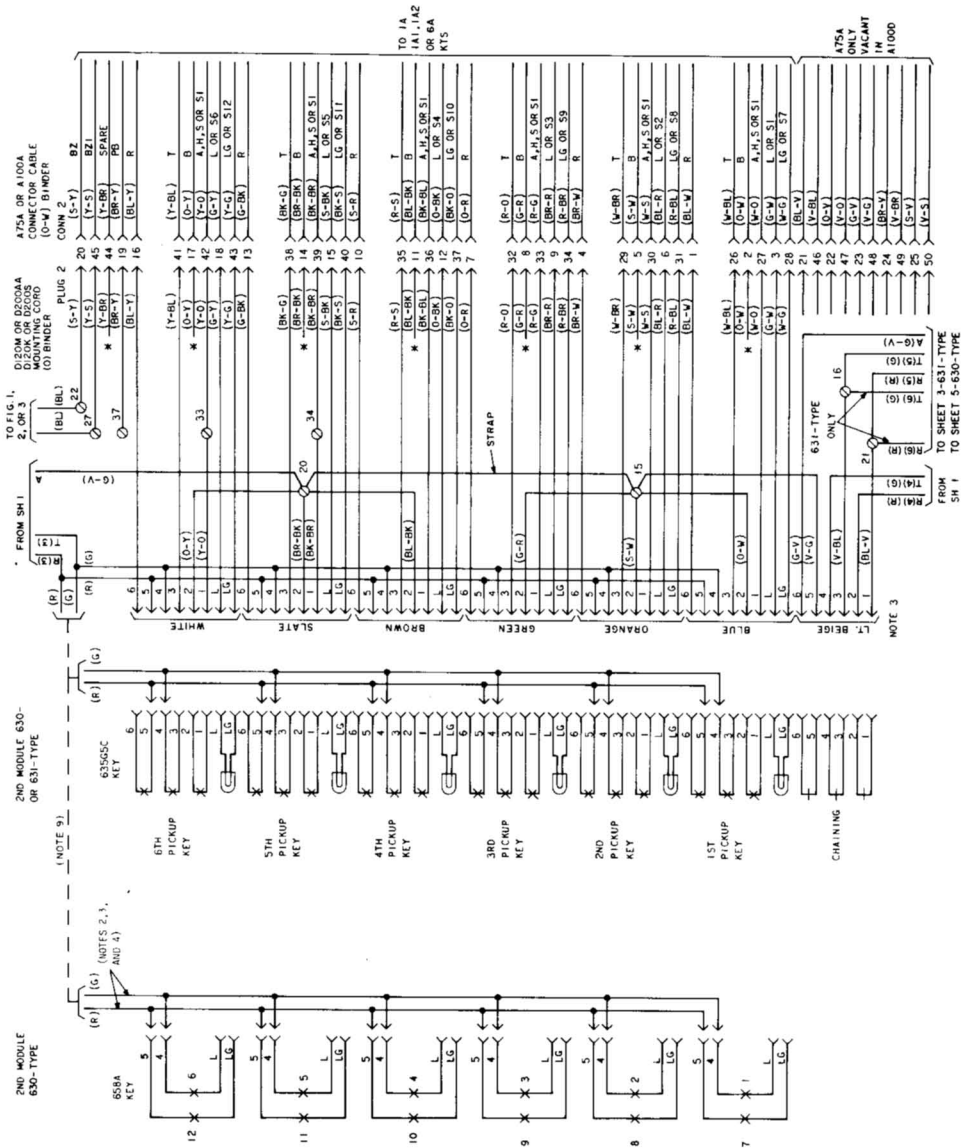

Fig. 4—Module and Connector Cable Arrangements (Sheet 2 of 5)
2.03 Contact strips are not extended to the chaining circuit. This requires a second tip and ring conductor to each module (except last). See Fig. 4, sheets 1 through 5.
NOTES FOR FIG. 4: